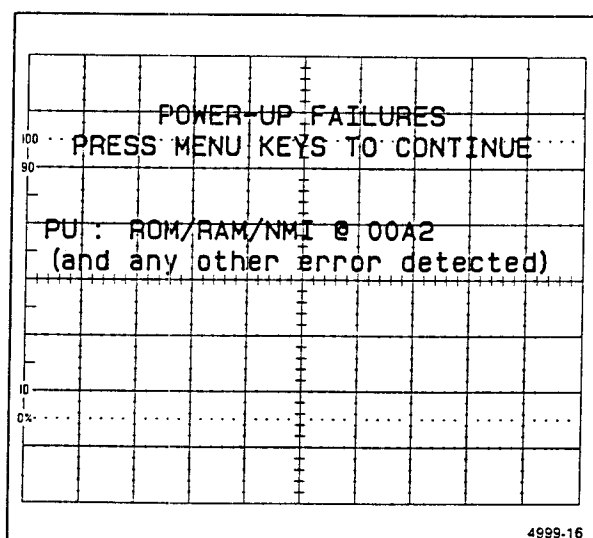

Figure 6-6. PU error display.
- If possible, display error message on the crt (see Figure 6-6):